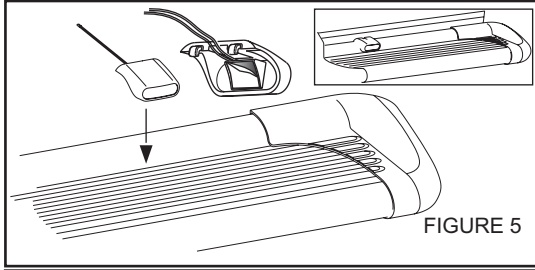
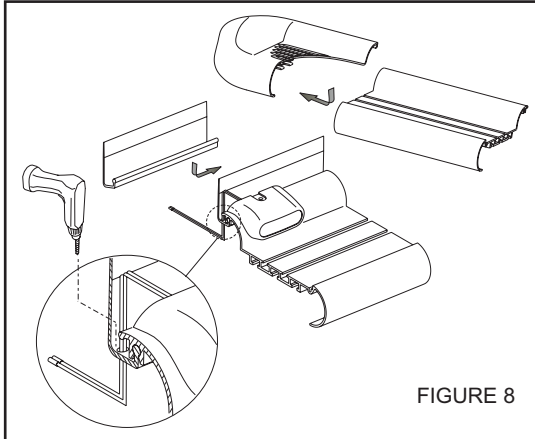

FIGURE 5
FIGURE 8
- STEP 6.** For Sure Grip Running Boards, slide closure strip as shown. Set lights (if purchased) in appropriate location. Attach to Sure Grip Running Board as shown. **SEE FIGURE 5.** Drill hole through plastic strip and run wires as shown. **SEE FIGURE 8.**